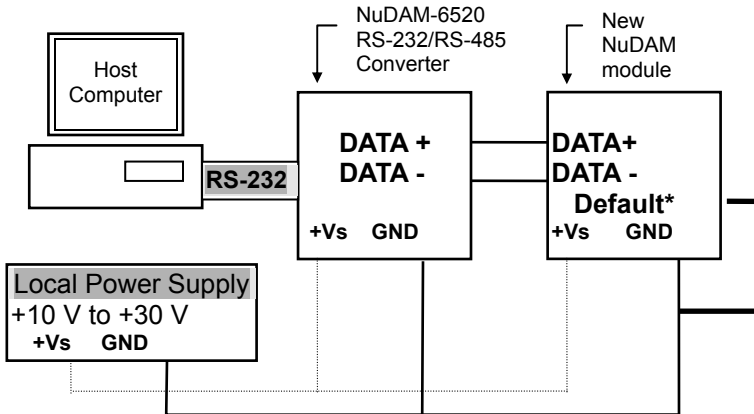

Figure 2-1 Layout for Initialization the NuDAM module
2. Connect a brand new NuDAM module with the RS-485. Set the module in *Default State* by shorting the **DEFAULT\*** pin. Refer to Figure 2.1 for detailed wiring.